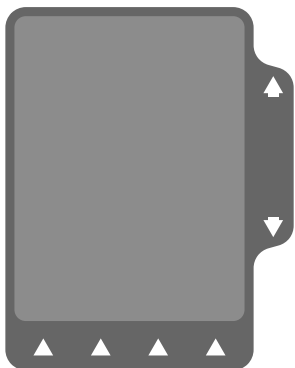

Figure 3-3 All Dark Screen
- c. The entire Main Display becomes dark (Figure 3-3).